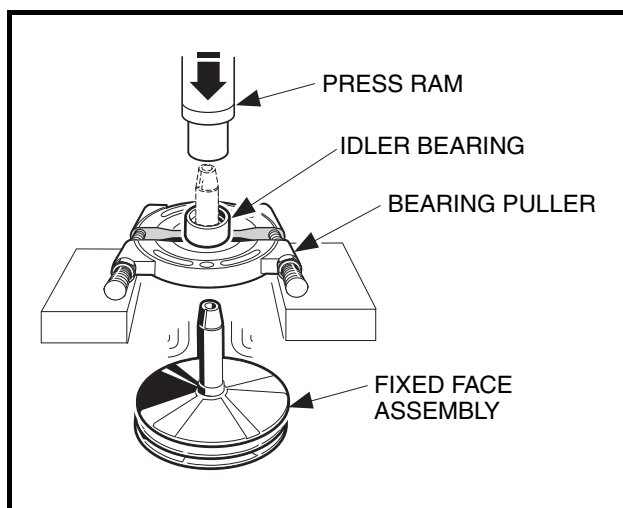

Figure 17-12 Remove Idler Bearing
- If necessary, remove idler bearing. Use a press to remove the bearing (**Figure 17-12, Page 17-9**). See following **NOTE**.